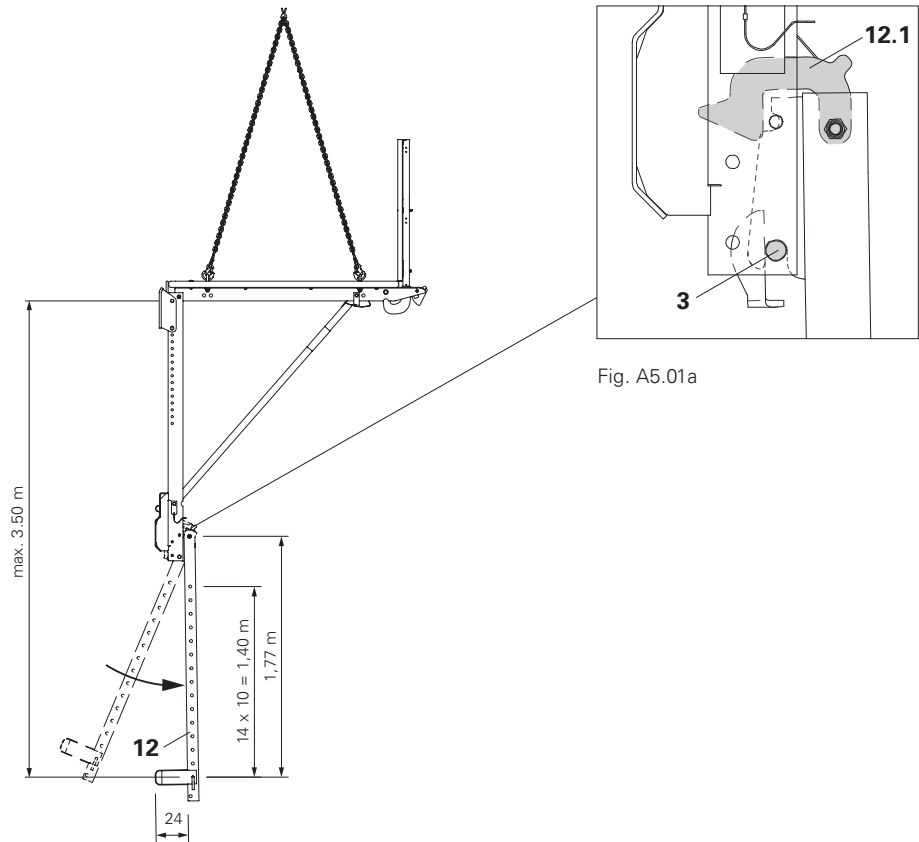

Fig. A5.01
1. Hook the Support Extension 200 (12) onto the $\varnothing 25$ mm bottom pin (3) from behind and allow it to swing back into the vertical position. (Fig. A5.01)